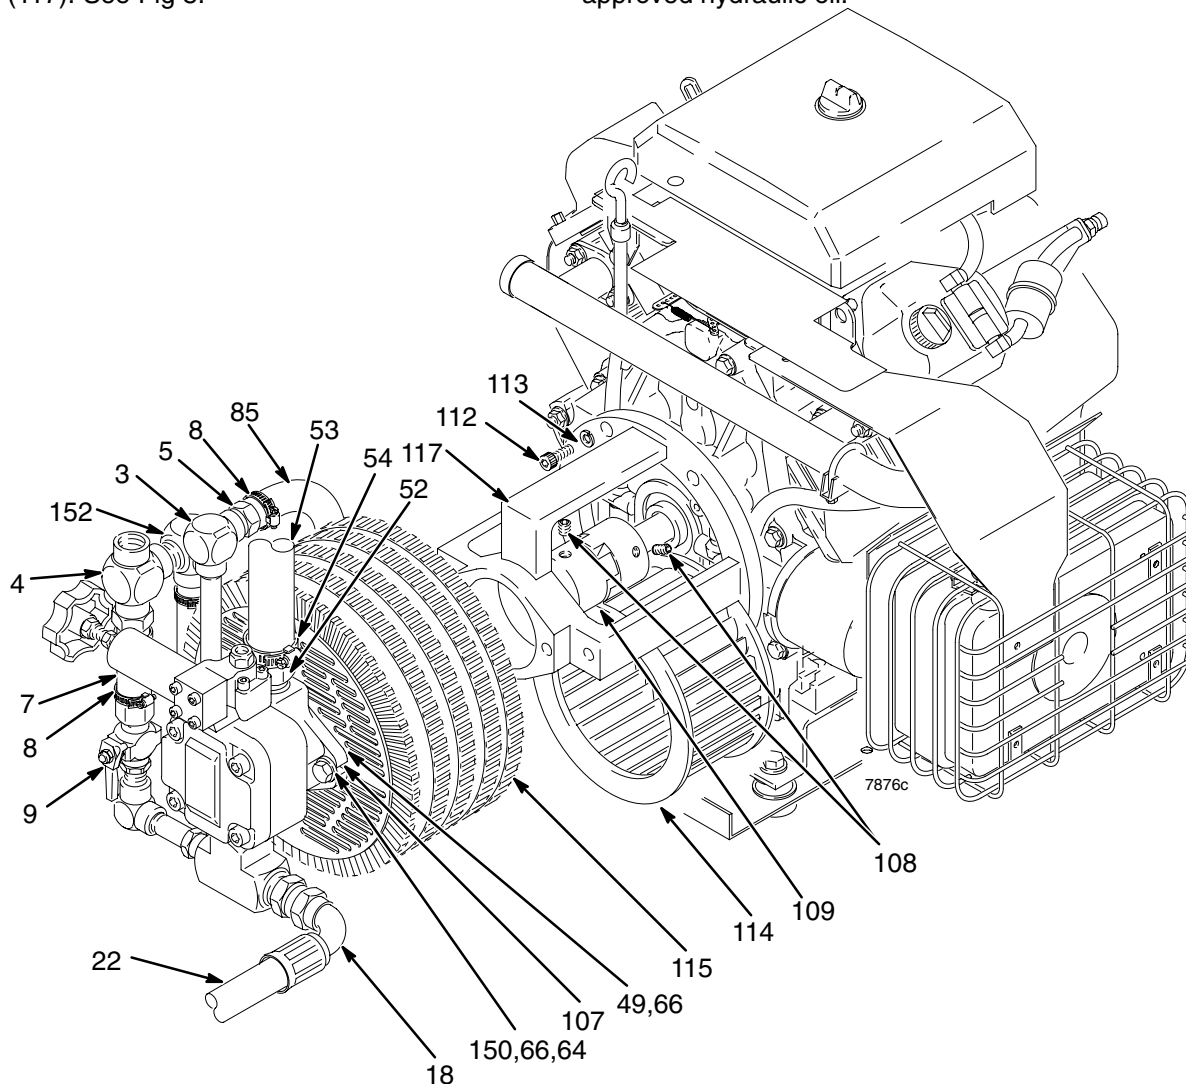
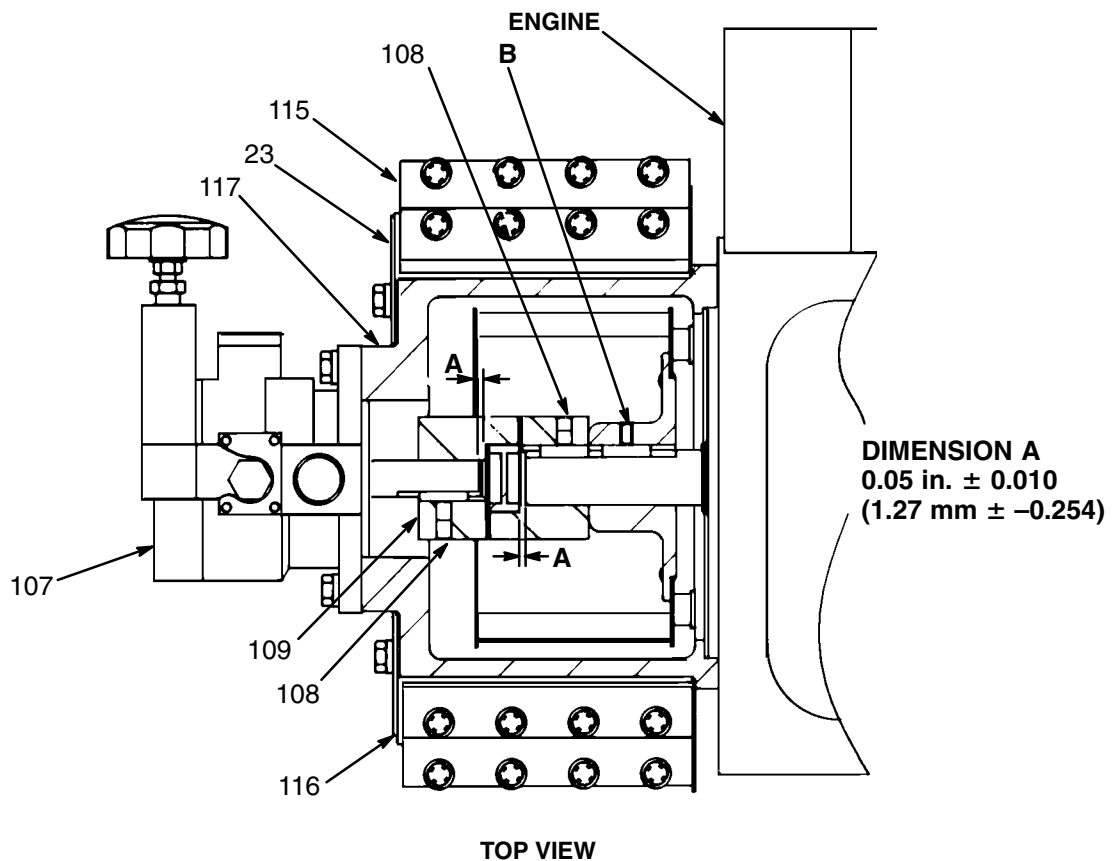

Fig 8
Fig 9
3. Disconnect the hose (7) from the bypass valve (9) by loosening the hose clamp (8). See Fig 8.
4. Loosen the hose clamp (8) and pull the hose (85) off the hose insert (5) near the elbow (3). See Fig 8.
5. Loosen the hose clamp (54) on the hose (53) just above the hydraulic pump (107). See Fig 8.
6. Loosen the tube fitting nut (18) of hose (22). See Fig 8.
7. Remove the two capscrews (150), lockwashers (66) and washers (64) holding the pump (107) to the support (117). See Fig 8.
9. Loosen the setscrews (108) on the pump half of the coupler (109). See Fig 9.
11. Check Dimension A as shown in Fig 9. When the dimension is correct, tighten the setscrews (108), slide the new pump assembly onto the pump support (117) and recheck the dimension.
12. Reconnect the hoses. Reinstall the reservoir plug (51), and refill the reservoir with clean, Graco approved hydraulic oil.
3. Disconnect the cooler to reservoir return hose (7.) by loosening the hose clamp (8). See Fig 8.
4. Remove the cooler capscrews (49) and lockwashers (66). See Fig 8.
5. Remove the fan guard (23, page 36). See Fig 8.
6. Pull the cooler (115) straight out.
7. Inspect the rubber pad (116) for wear and replace if necessary. See Fig 9.
8. Inspect the blower wheel (114) for wear. See Fig 8. If it needs to be replaced, follow Steps 8a–8e.
- a. Unscrew the setscrews (108) from the engine half of the coupler (109). Unscrew the blower setscrews (B). See Fig 9.
- b. Remove the capscrews (112) and lockwashers (113) holding the pump support (117) to the engine and pull the support off. See Fig 8.
- d. Install a new blower. Secure the pump support (117) to the engine. See Fig 8.
- e. Check Dimension A as shown in Fig 9 and tighten the coupler setscrews (108). Butt the blower hub up to the coupler half, keeping the blower in full contact with the coupler, and tighten the blower setscrews (B).
10. Fold the flaps of the pad (116) toward the cooler fins and install the fan guard (23, page 36), capscrews (49) and lockwashers (66). See Fig 8.